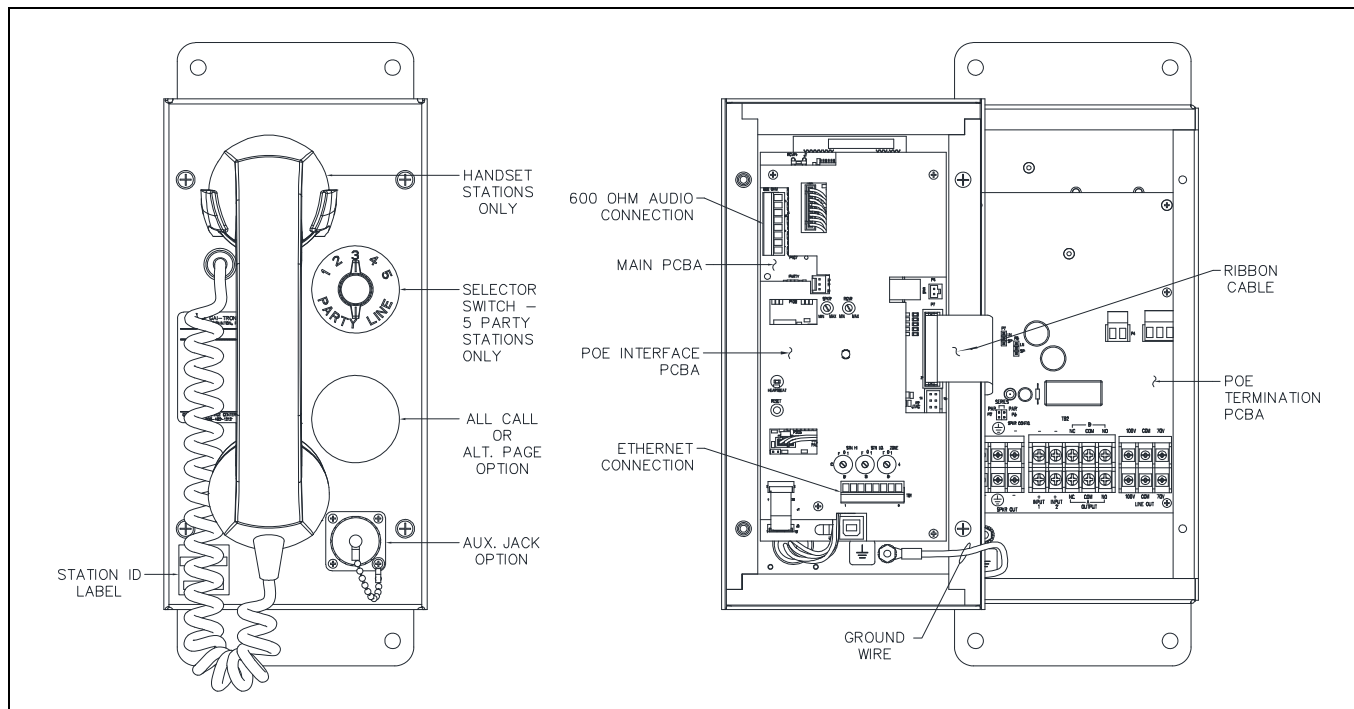

Figure 1. HUBBCOM PoE Handset/Speaker Amplifier Station
This guide covers the installation of HUBBCOM™ PoE handset/speaker amplifier stations (see Figure 1). Refer to Publication 42004-788 for detailed explanations of the available configuration options and adjustments, system design specifications, and warranty information. GAI-Tronics' product documentation is on the GAI-Tronics website at <https://www.gai-tronics.com>.
HUBBCOM stations provide terminal blocks, on the termination PCBA, located in the rear enclosure, for field wiring the speaker, optional 70-volt/100-volt speakers, and RTU connections. The main PCBA, mounted to the back of the front panel, provides a pluggable terminal block for the 600-ohm audio connection. The Ethernet connection is located on the POE interface PCBA, mounted on top of the main PCBA (see Figure 1).
2. Secure it to the ground terminal located in the lower left corner at the back of the rear enclosure (see Figure 1).